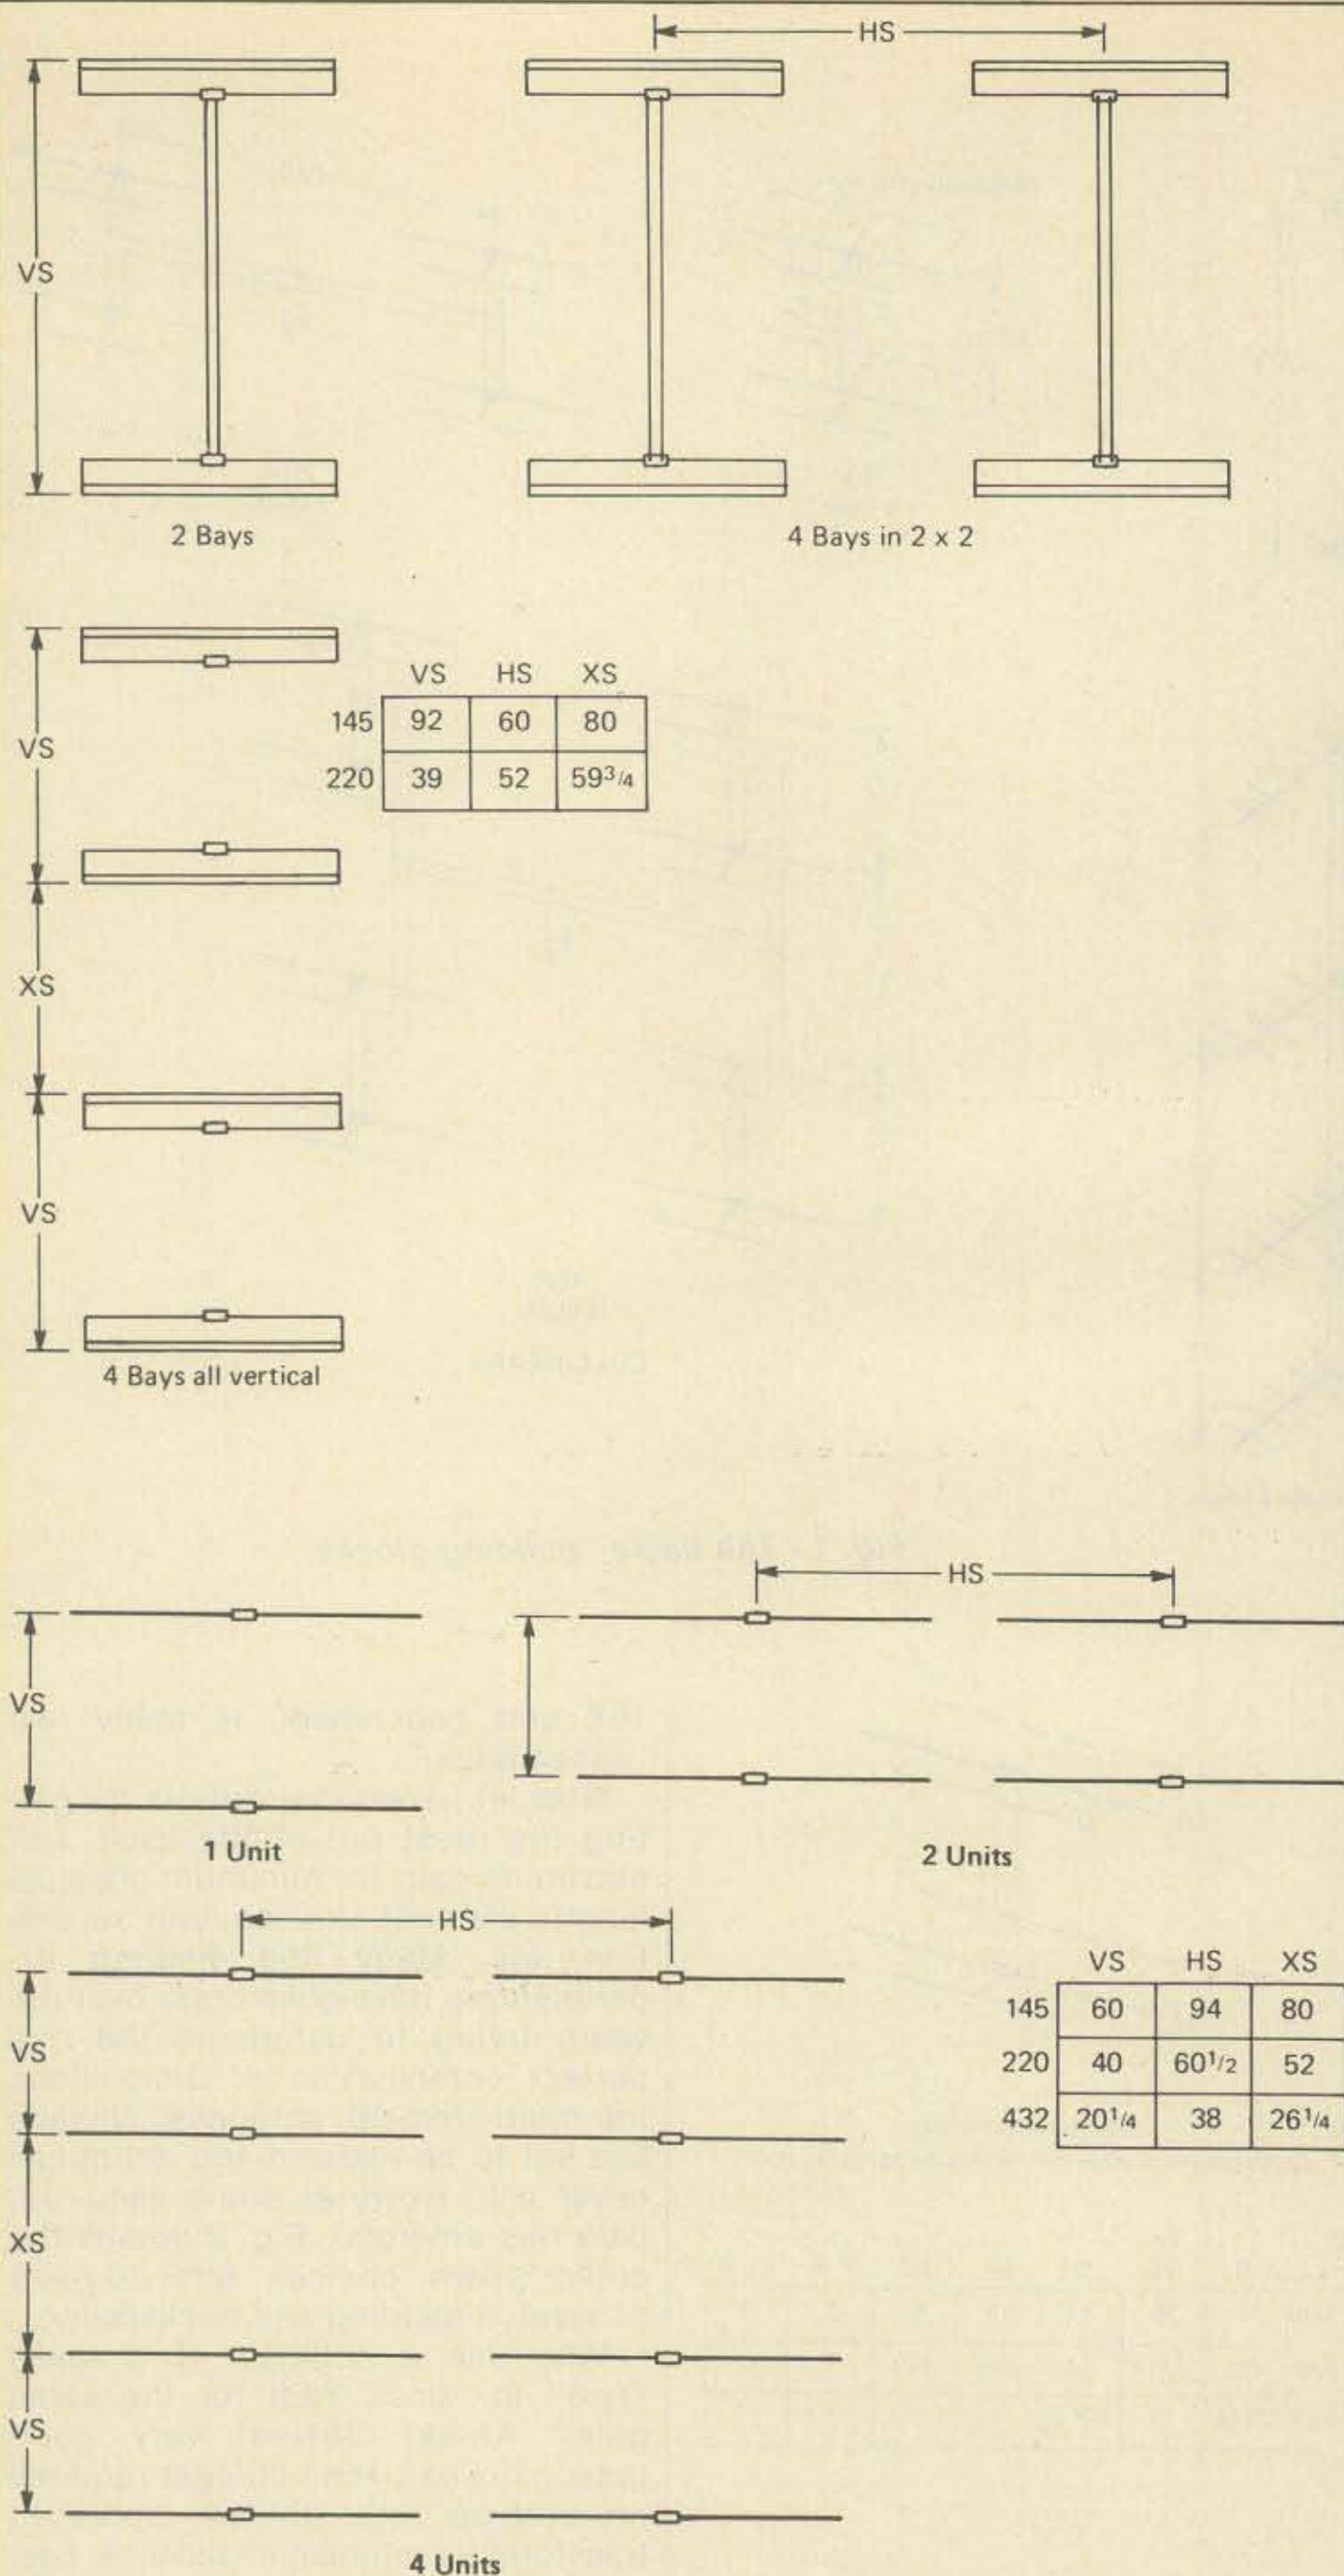

Fig. 3 - In (a) the separation of "units" (yagis); in (b) the separation of "units" (collinears).
Fig. 3 tabulates proper spacing for height and width of all our "MU's" or multiple units. The "alternate" 4-stack vertically of yagis is recommended where sharpness of horizontal beamwidth is not important but where lowest possible wave angle is required. This is rather "tall," however, for the beginning two meter amateur, as it adds up to 22'. The middle stacking dimension (XS) is 1.0l in both yagi and collinear 4-unit cases.